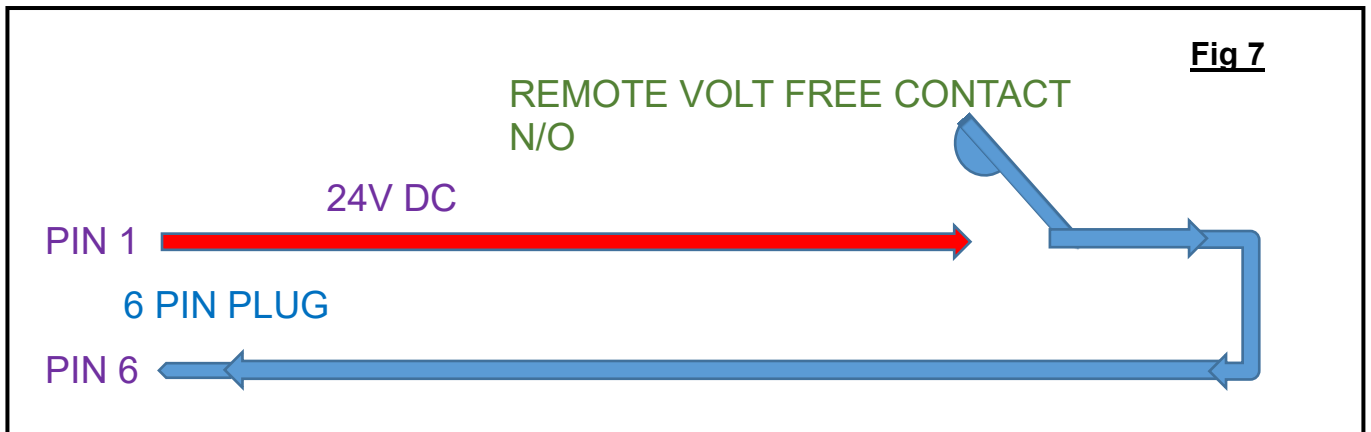

Fig 7
12. If the application requires the remote trigger to facilitate the unit to switch on and off with an existing production line, please refer to Page 14 – Fig 7 on the manual.
Within the SAS Control unit memory, you can also select within each Menu number, to operate the Electrostatics from a remote volt-free signal (see page 14, Fig 7)